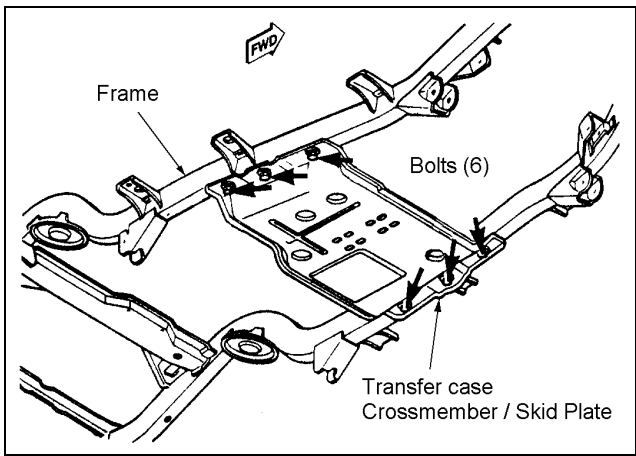

Figure 11
2. Place the transmission in neutral. Support the transfer case crossmember/skid plate with a hydraulic jack. Loosen the 6 bolts holding the crossmember to the frame. See figure 11.